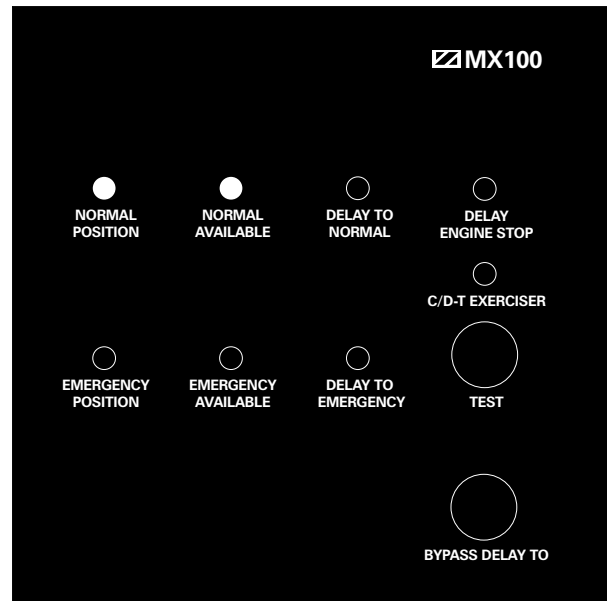

Figure 2 - Standard Transition Annunciation LEDs and Test Switch
After all options and accessories are checked and verified, follow these steps to set up the ATS. Refer to MX100 display Figure 2. The annunciation LEDs illuminate to indicate (1) source availability, (2) ATS position, and (3) MX100 control function (timing).
For this test description, please refer to MX100 standard transition display *Figure 2*.